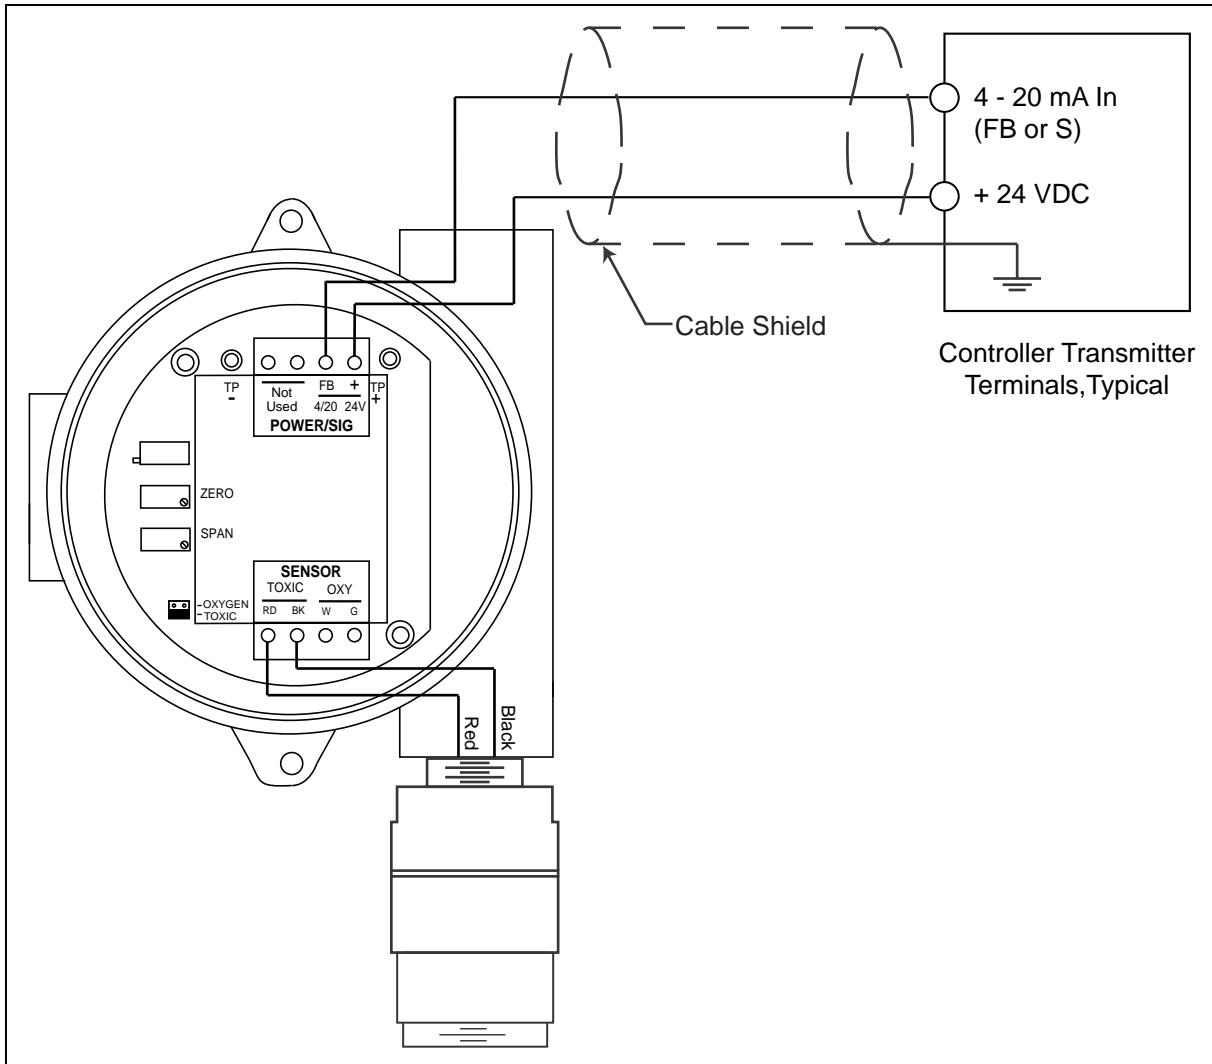

Figure 3: Wiring the CO Transmitter to a Controller
4. Verify that the detector leads are wired to the amplifier's detector terminal strip. If necessary, connect the detector leads to the detector terminal strip as shown in Figure 3.
5. Verify that the jumper block is installed over the **TOXIC** selector of the amplifier type selector as shown in Figure 3.
7. Connect the two wires to the interconnect terminal strip as follows (see Figure 3).
10. Connect the wires to the applicable controller transmitter terminal strip as shown in Figure 3.